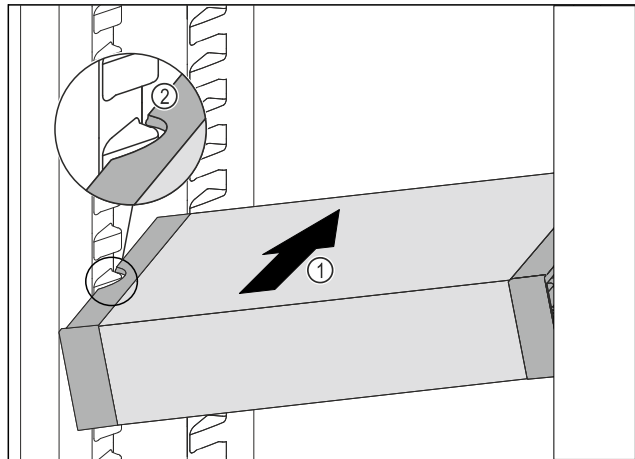

Fig. 85
- ▶ Insert the VarioSafe into the fridge section at an angle Fig. 85 (1) until the recesses in the side Fig. 85 (2) of the VarioSafe are at the level of the support rib in the fridge section.